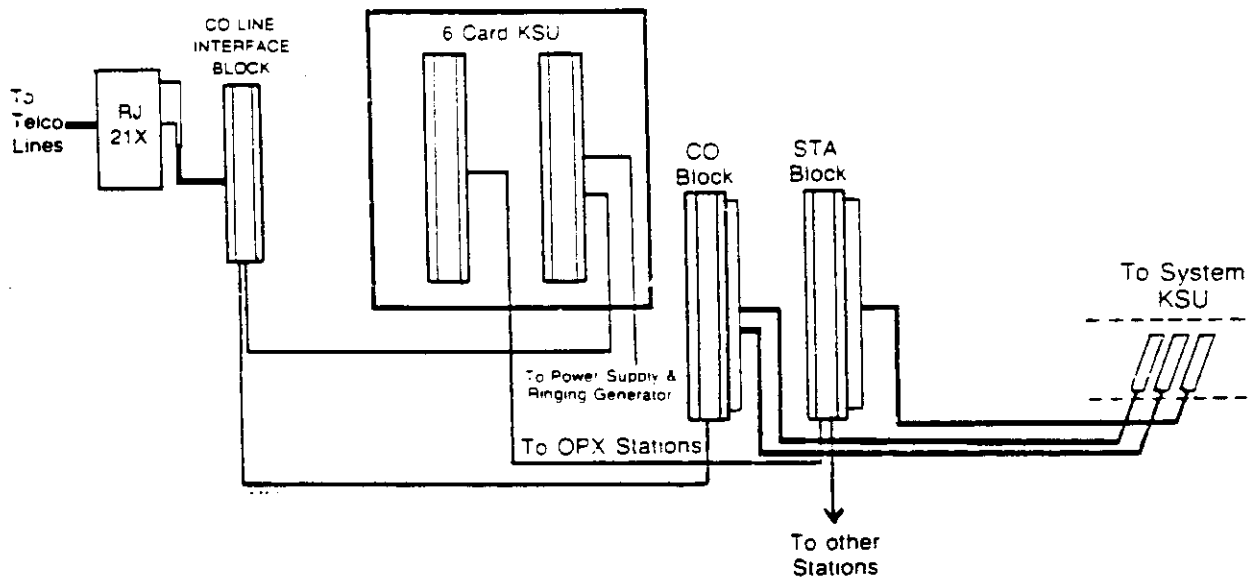

Figure 5a OPX INSTALLATION WITH 6 CARD KSU
4.01 The following paragraphs provide instructions for connecting the CPX to the system equipment. It is recommended that the 6 Card and 13 Card KSU be mounted on a separate mounting board to the left of the system equipment and near a separate 115VAC, 15 amp outlet (Figures 5a and b). The maximum line loss for the CPX is 1300 ohms.